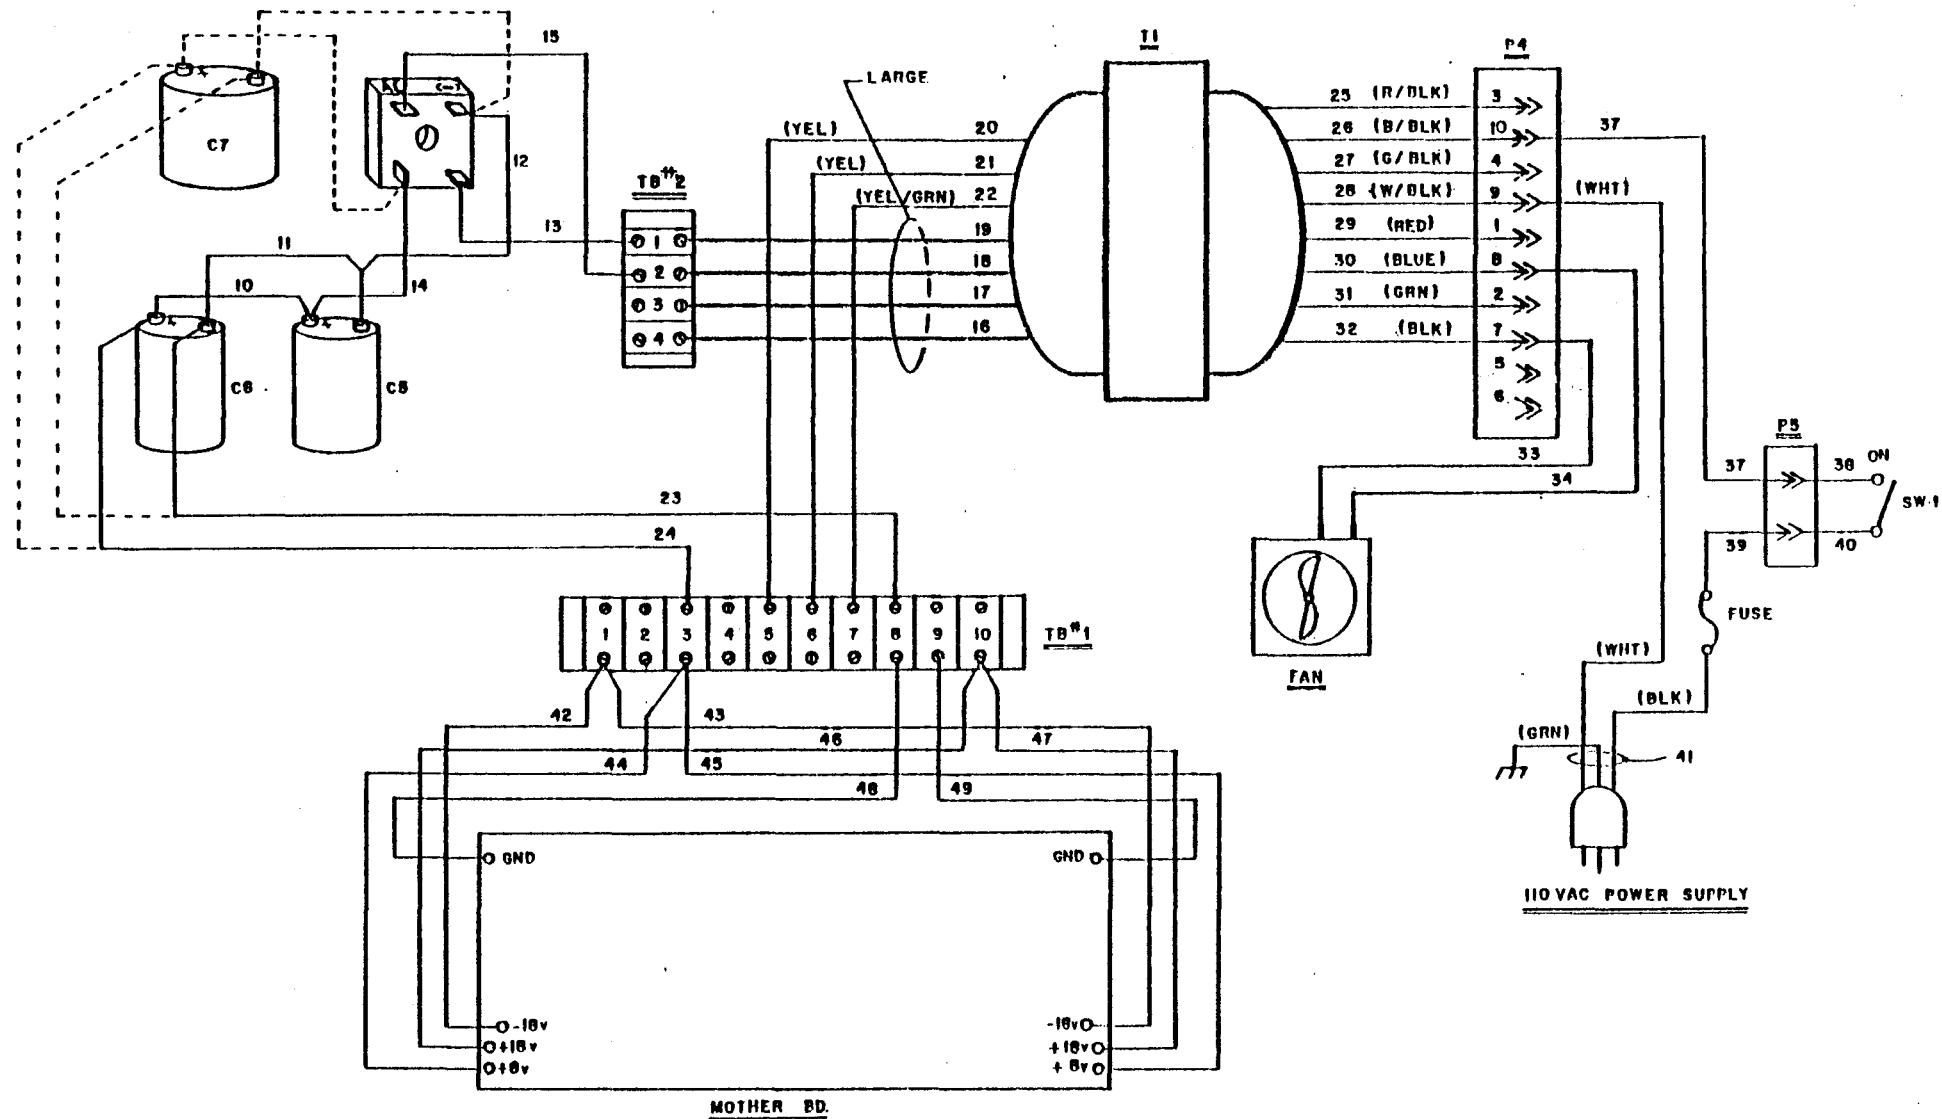
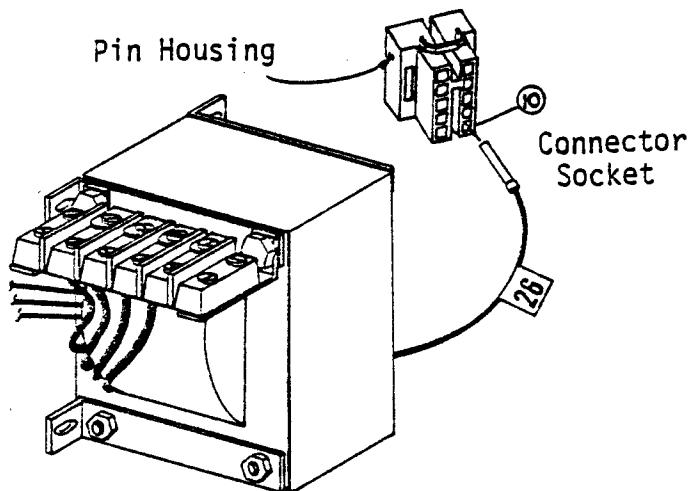

Figure 5-50. Wiring Diagram
Figure 5-58. Pin Housing Insertion
## 5-59. CAPACITOR WIRING (Figure 5-50)
3. Connect the wire from the "+" side of the capacitor to terminal #3 on the power supply board terminal block (TB1). (See wiring diagram, Figure 5-50.)
4. Connect the wire from the ground (-) side of the capacitor to terminal #8 of the terminal block (TB1). (See wiring diagram, Figure 5-50.)
4. Connect the wire from the "+" side of C5 to terminal #3 on the terminal block (TB1). (See wiring diagram, Figure 5-50.)
5. Connect the wire from the ground side of C5 to terminal #8 of the terminal block (TB1). (See wiring diagram, Figure 5-50.)
2. When all eight wires on the primary side of the transformer have pins attached, insert the pin housing (P4) as shown in Figure 5-58. Insert the pins in the following order (see wiring diagram, Figure 5-50):
2. Attach wires 13 and 15 from the bridge rectifier to terminals 1 and 2 of the terminal block (TB2). (See Wiring Diagram, Figure 5-50.)
2. Make sure the two 19-inch bridge rectifier wires, the 40-inch fuse wire (#39), and the 40-inch connector plug wire (#37) go under the fan as the back panel is mounted. Connect wire 14 from the bridge rectifier to the "+" side of the capacitor(s). Connect wire 12 from the bridge rectifier to the ground side of the capacitor(s). Make continuity checks (see wiring diagram, Figure 5-50).